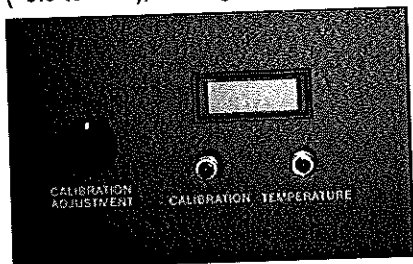

Figure 8
- The Digital Display Meter shows grain moisture constantly and should read approximately 6% when Sensor is in open air (no grain passing over Sensor), see Figure 8.
- Push Grain Temperature Button and the display meter will show Temperature of Grain on the sensor, see Figure 8.
- Push Calibration Button and the display meter will show the amount added to or subtracted from the displayed moisture (-9.9 to +9.9), see Figure 8.